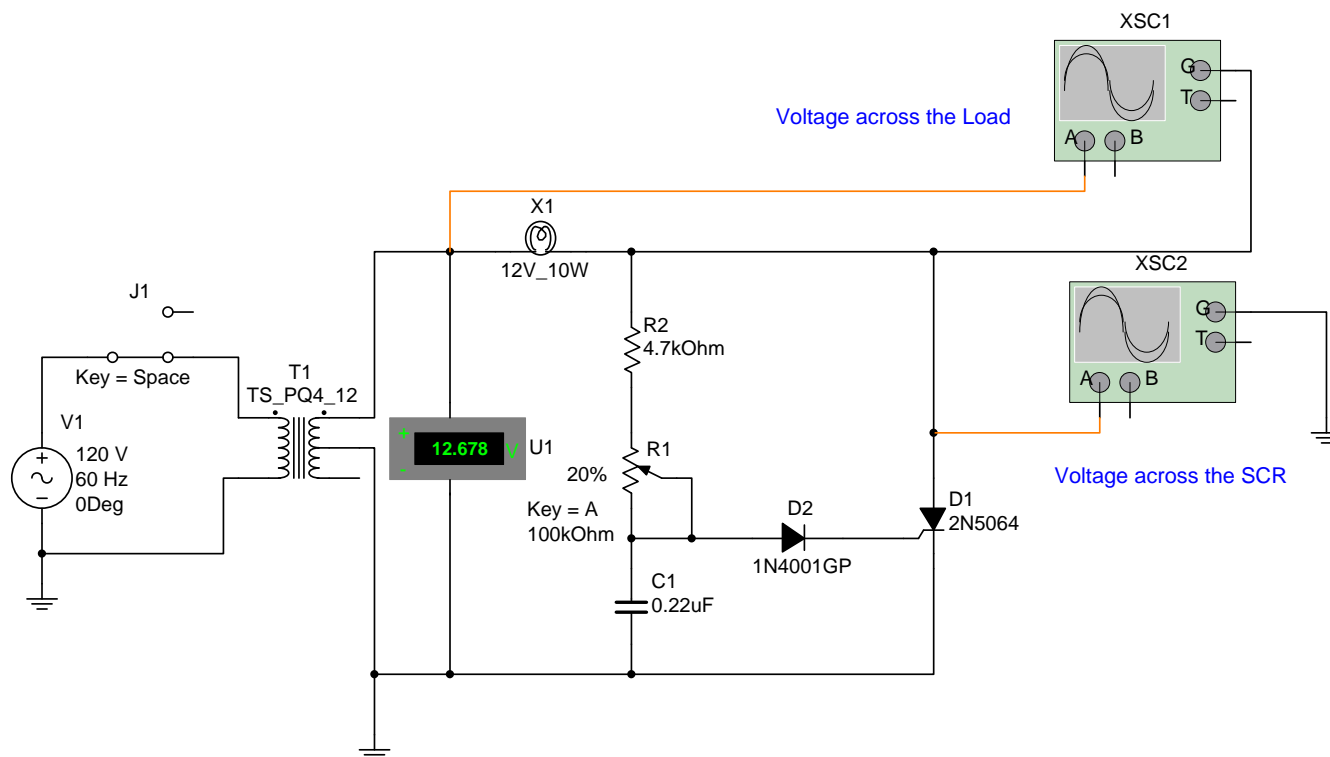

Figure 6-1. SCR circuit
The appropriate circuit is shown in Figure 6-1.
1. Build the circuit in Figure 6-1 using Multisim. Make sure that you use two oscilloscopes, one to observe the signal at the load (X1) and the other to observe the signal at the SCR (D1). In addition, ensure that X1 is a 12 V lamp.
- Repeat steps 2 and 3. Do you observe the same behaviors and waveforms as in the circuit of Figure 6-1? Describe any difference and explain the reasons.
You are going to hardwire one of the circuits that you built and analyzed using Multisim. This time you are going to hardwire the circuit shown in Figure 6-1. As you did in previous labs, before continuing you are going to indicate the list of components and the equipment that you need to complete this task.
1. Hardwire the circuit shown in Figure 6-1. If you don't have access to an oscilloscope, then disregard it in this part. You will observe the circuit behavior by looking at the lamp brightness. If you do not have an oscilloscope, then skip step 2 and go to step 3.
2. When taking the measurements in the hardwired circuit, connect the oscilloscope to measure the voltage across the load only. **DO NOT** attempt to use a dual-trace oscilloscope to measure the voltage across the load and the voltage across the SCR (D1). What you can do is connect the oscilloscope as XSC1 in Figure 6-1 to observe the waveform at the load. Then, disconnect the oscilloscope and connect it the way XSC2 is connected in Figure 6-1 to observe the waveform across the SCR.
5. What difficulties have you encountered in hardwiring the SCR circuit of Figure 6-1?